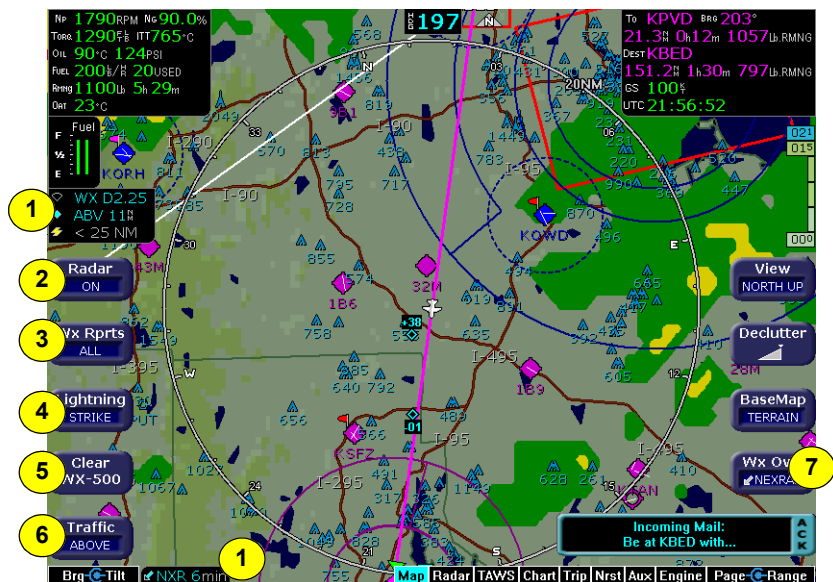

Figure 11.2 Datalink Weather—Map Page
- 1) **Sensor Status Block**—The Sensor Status Block gives the status of the weather information presented. The Lightning sensor status reflects whether the lightning information displayed on the Map is from Datalink or from an on-board lightning sensor, if installed. If space is available, the Datalink sensor status, which includes the age of the most recent NEXRAD radar image, is shown on the bottom line of the upper block. If optional sensors are installed, the Datalink sensor icon is displayed in the lower left portion of the screen (as shown in Figure 11.2).